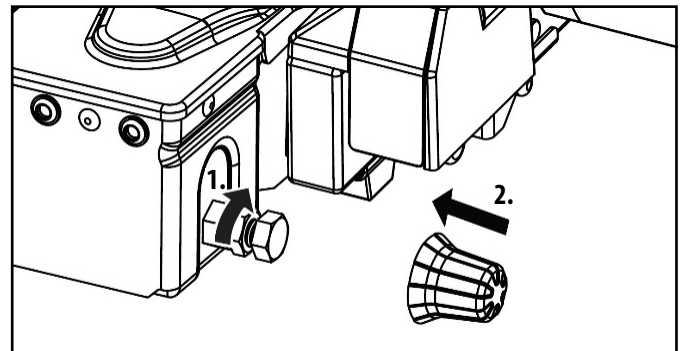

Figure 16: Adjustment of the quick lock
- Tighten the locking nut (Figure 16).